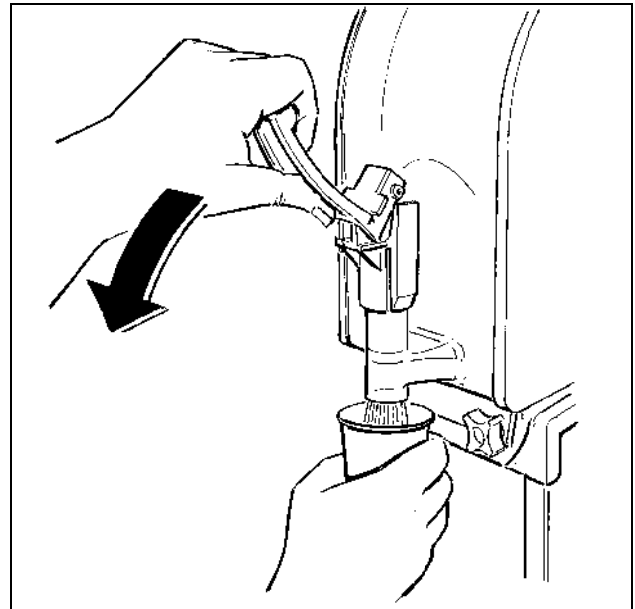

Fig. 12
a) To dispense the product, position the cup under the tap and pull the dispensing lever (see figure 12).